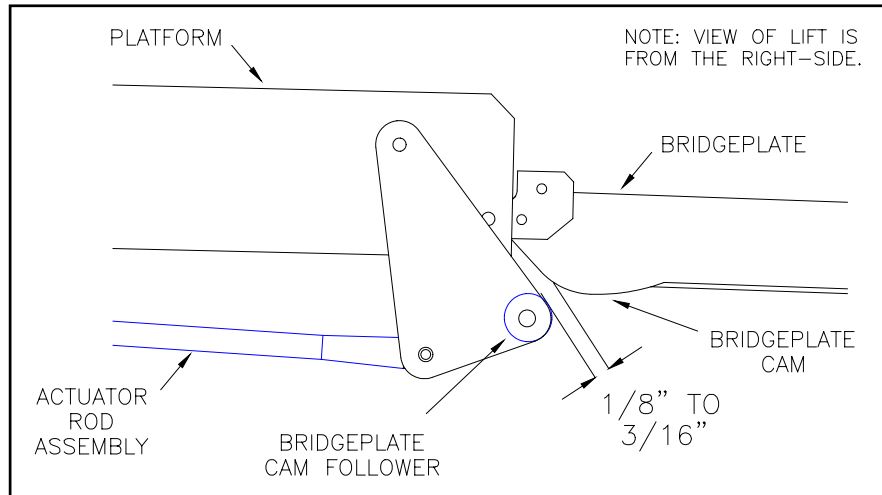

FIGURE 4-12: BRIDGEPLATE ADJUSTMENT DIAGRAM
- 8) Refer to **Figure 4-12**. Turn the rod end to shorten or lengthen the actuator rod assembly so that the bridgeplate cam follower is between 1/8" - 3/16" from the cam of the bridgeplate when the shoulder bolt is reinstalled. Measure and note the distance between the rod end mounting hole and the actuator rod. Reinstall the standoff/spacer, the shoulder bolt, and tighten the rod end hex-nut.